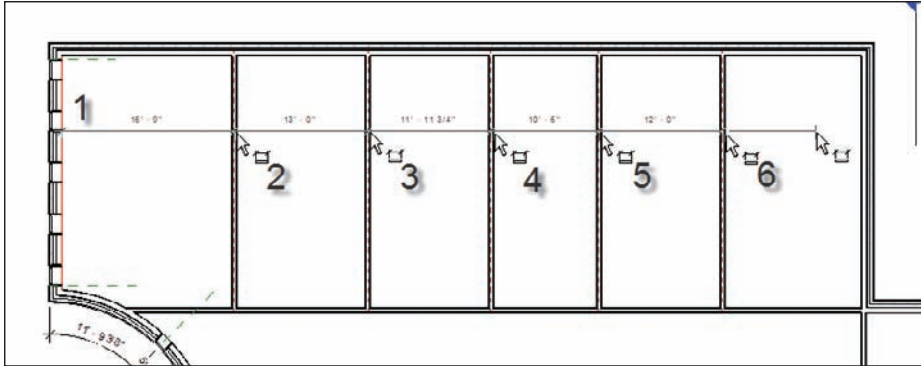

FIGURE 5.28 Adding a string of dimensions to the interior walls
12. Move your cursor to the right until you pass over the first interior wall. Notice the core centerline of the interior wall highlights. When you see this, pick the wall, as shown in Figure 5.28.
14. Repeat the procedure until you get to the last wall (see Figure 5.28).